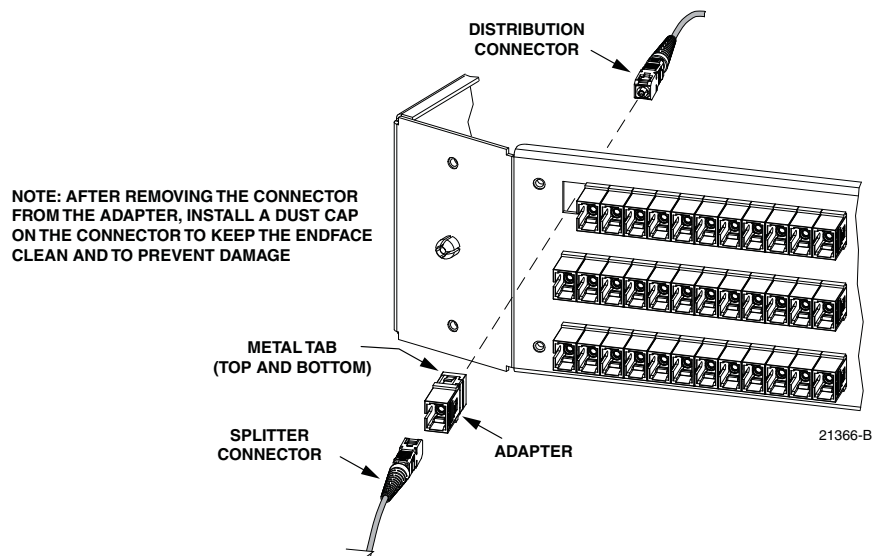

Figure 59. Adapter Removal and Replacement - Typical Distribution Panel
1. Disconnect the splitter connector from the front side of the broken adapter as shown in Figure 59 and install a dust cap on the connector.